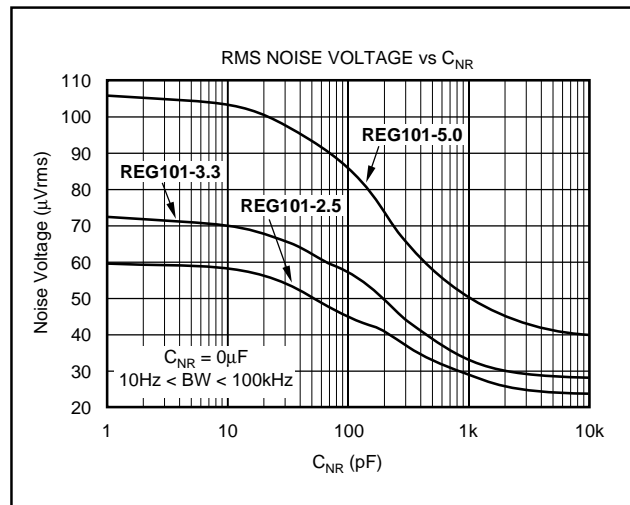
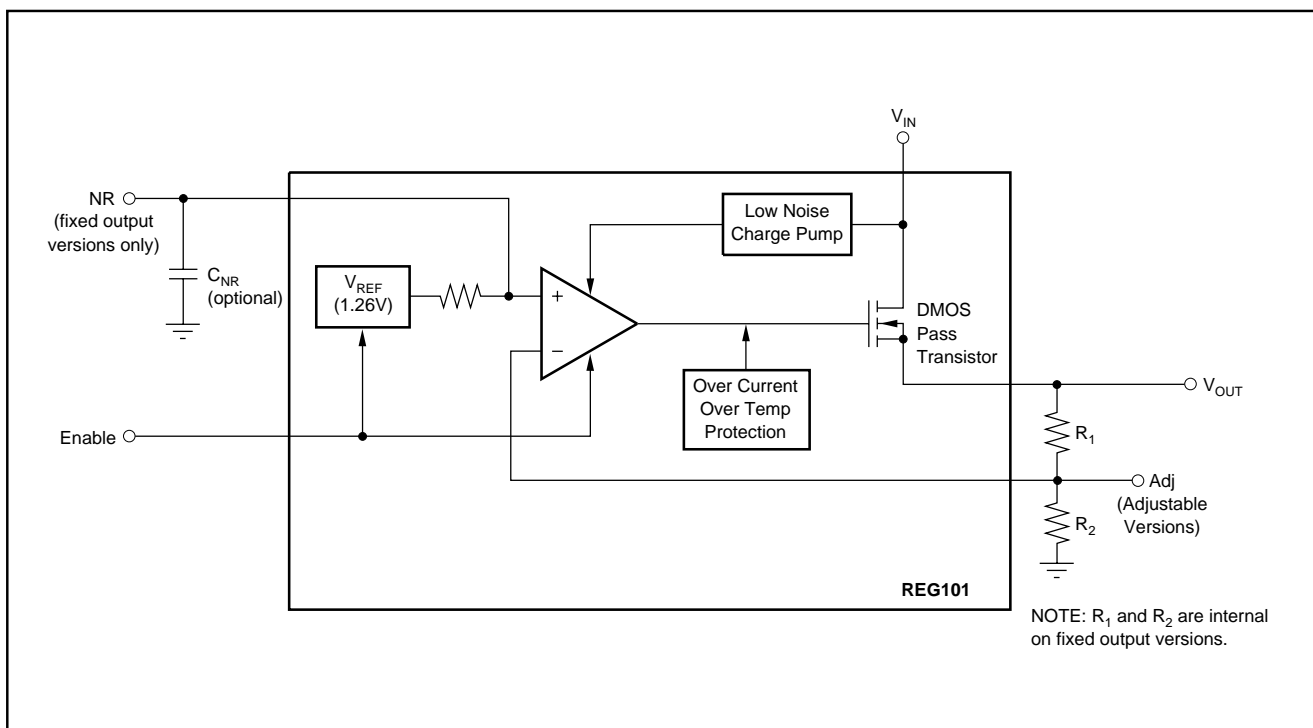

FIGURE 5. Output Noise vs Noise Reduction Capacitor.
FIGURE 4. Block Diagram.
Connecting a capacitor, C_{NR} , from the Noise Reduction (NR) pin to ground, as shown in Figure 4, forms a low-pass filter for the voltage reference. For $C_{NR} = 10\text{nF}$, the total noise in the 10Hz to 100kHz bandwidth is reduced by approximately a factor of 2.8 for $V_O = 3.3\text{V}$. This noise reduction effect is shown in Figure 5 and as “RMS Noise Voltage vs C_{NR} ” in the Typical Performance Curves section.